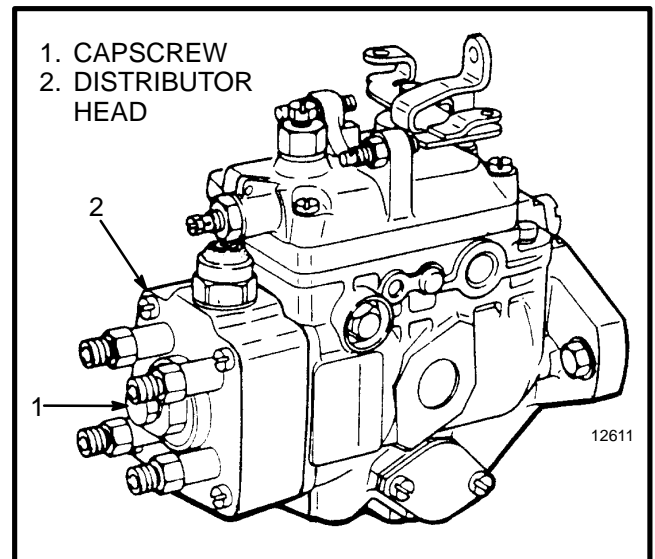

FIGURE 65. FUEL INJECTION PUMP, MODEL VE
1. Remove the capscrew (2) from the center of the distributor head (1) as shown in FIGURE 65. Use a dial indicator so that the movement of the plunger can be measured. The movement of the plunger can be measured through the hole in the distributor head where the capscrew was removed.